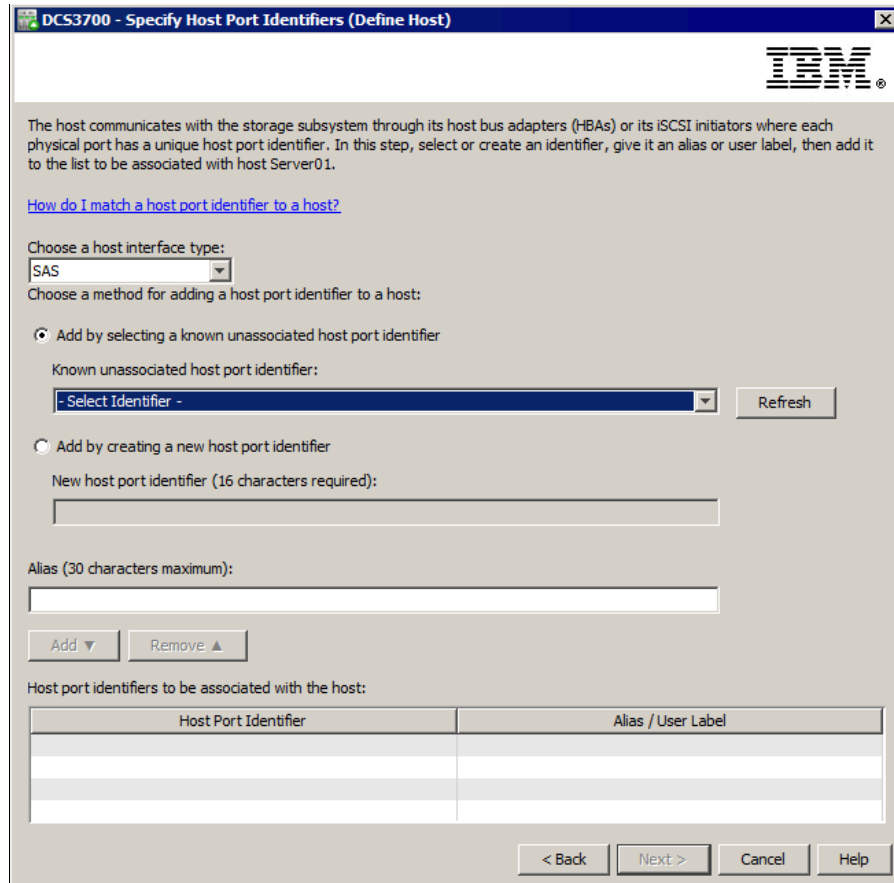
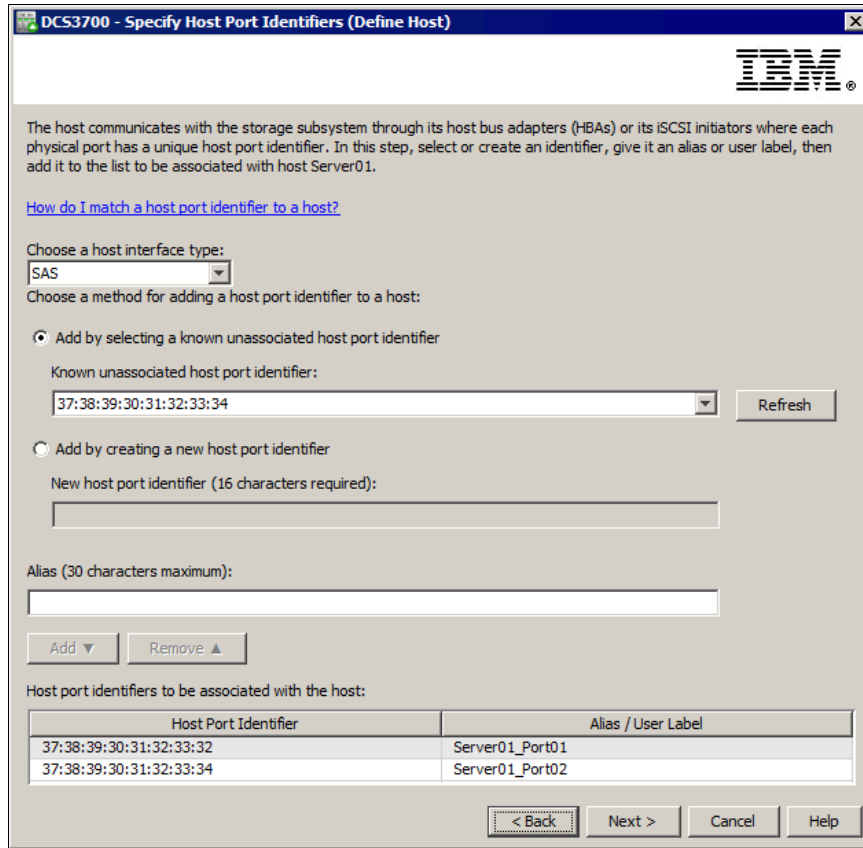

Figure 10-5 Define Host - interface type, known port identifier, and alias
Figure 10-6 Define Host - interface type, new port identifier, and alias
4. In the next window (Figure 10-5), you need the attachment protocol to specify the host interface type (SAS, iSCSI, or FC) and the HBA host port information (host port identifier and alias) or the Host Initiator name (for example iqn.1996-04.de.microsoft:01:27dc9458a936). Remember that the HBA host port identifier is the worldwide port name (WWPN) of the particular HBA port. To make sure that you know what your server's HBA WWPN is, use the appropriate management tool for your HBA (for example, the SANsurfer management tool for the QLogic HBA), use Fabric Name Server in FC fabric management tool, or you can obtain the WWPN from the BIOS during boot process of the server where the HBA is placed.
- b. Select an active port that is already detected by the storage subsystem in the Known unassociated host port identifier field, as shown in Figure 10-5, or enter the WWPN directly into the field (see Figure 10-6 on page 333).